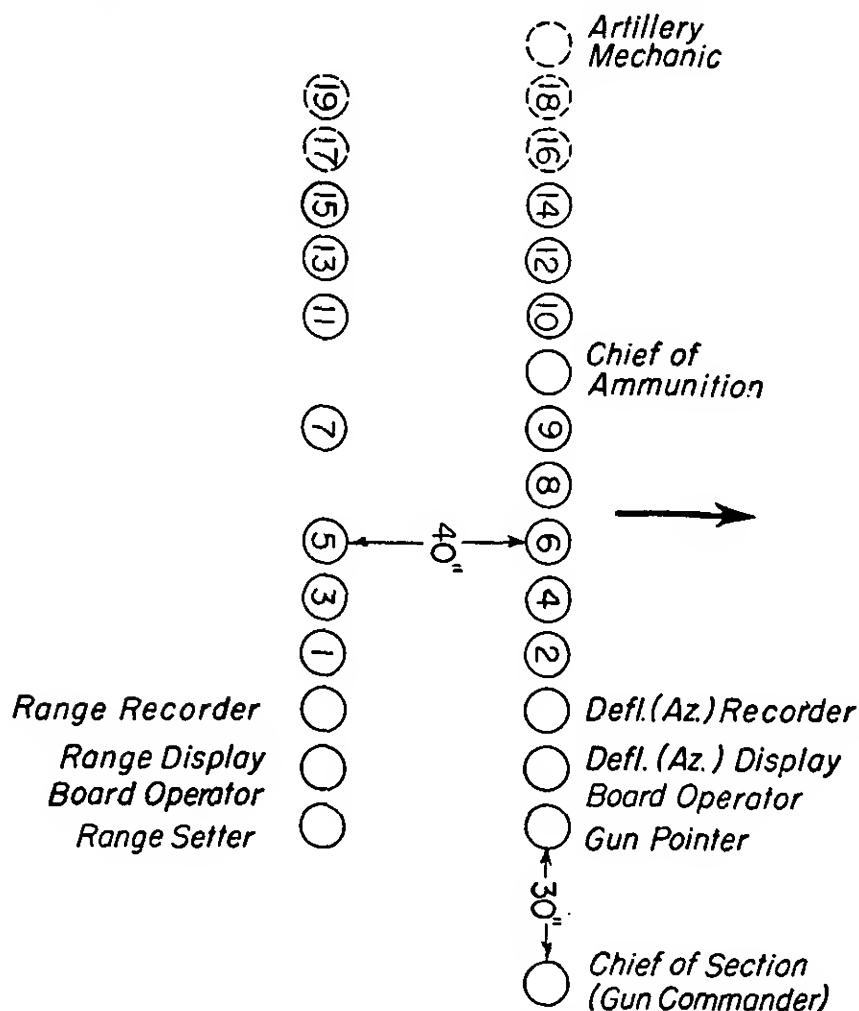

FIGURE 1.—Formation of the gun section.
■ 6. FORMATION.—Each section assembles in two ranks with 4 inches between files and 40 inches between ranks. The post of the chief of section (gun commander) is in the front rank, 1 pace to the right of his section. The artillery mechanics who are members of the maintenance section normally form with the firing section, and take post in the front rank on the left of the first and last gun sections. (See fig. 1.)